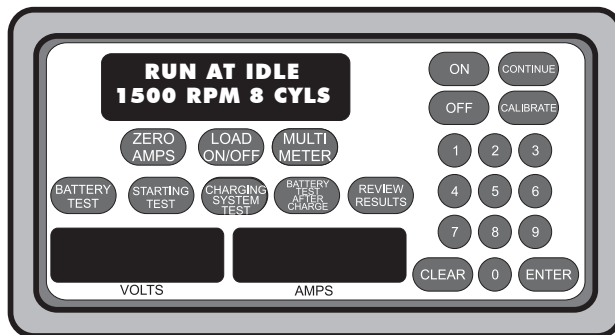

Figure 17
4. After 10 seconds, the display reads “RUN AT IDLE” (see Figure 17). Reduce the engine speed to idle. When the computer detects idle speed, the display reads “MAINTAIN IDLE.”